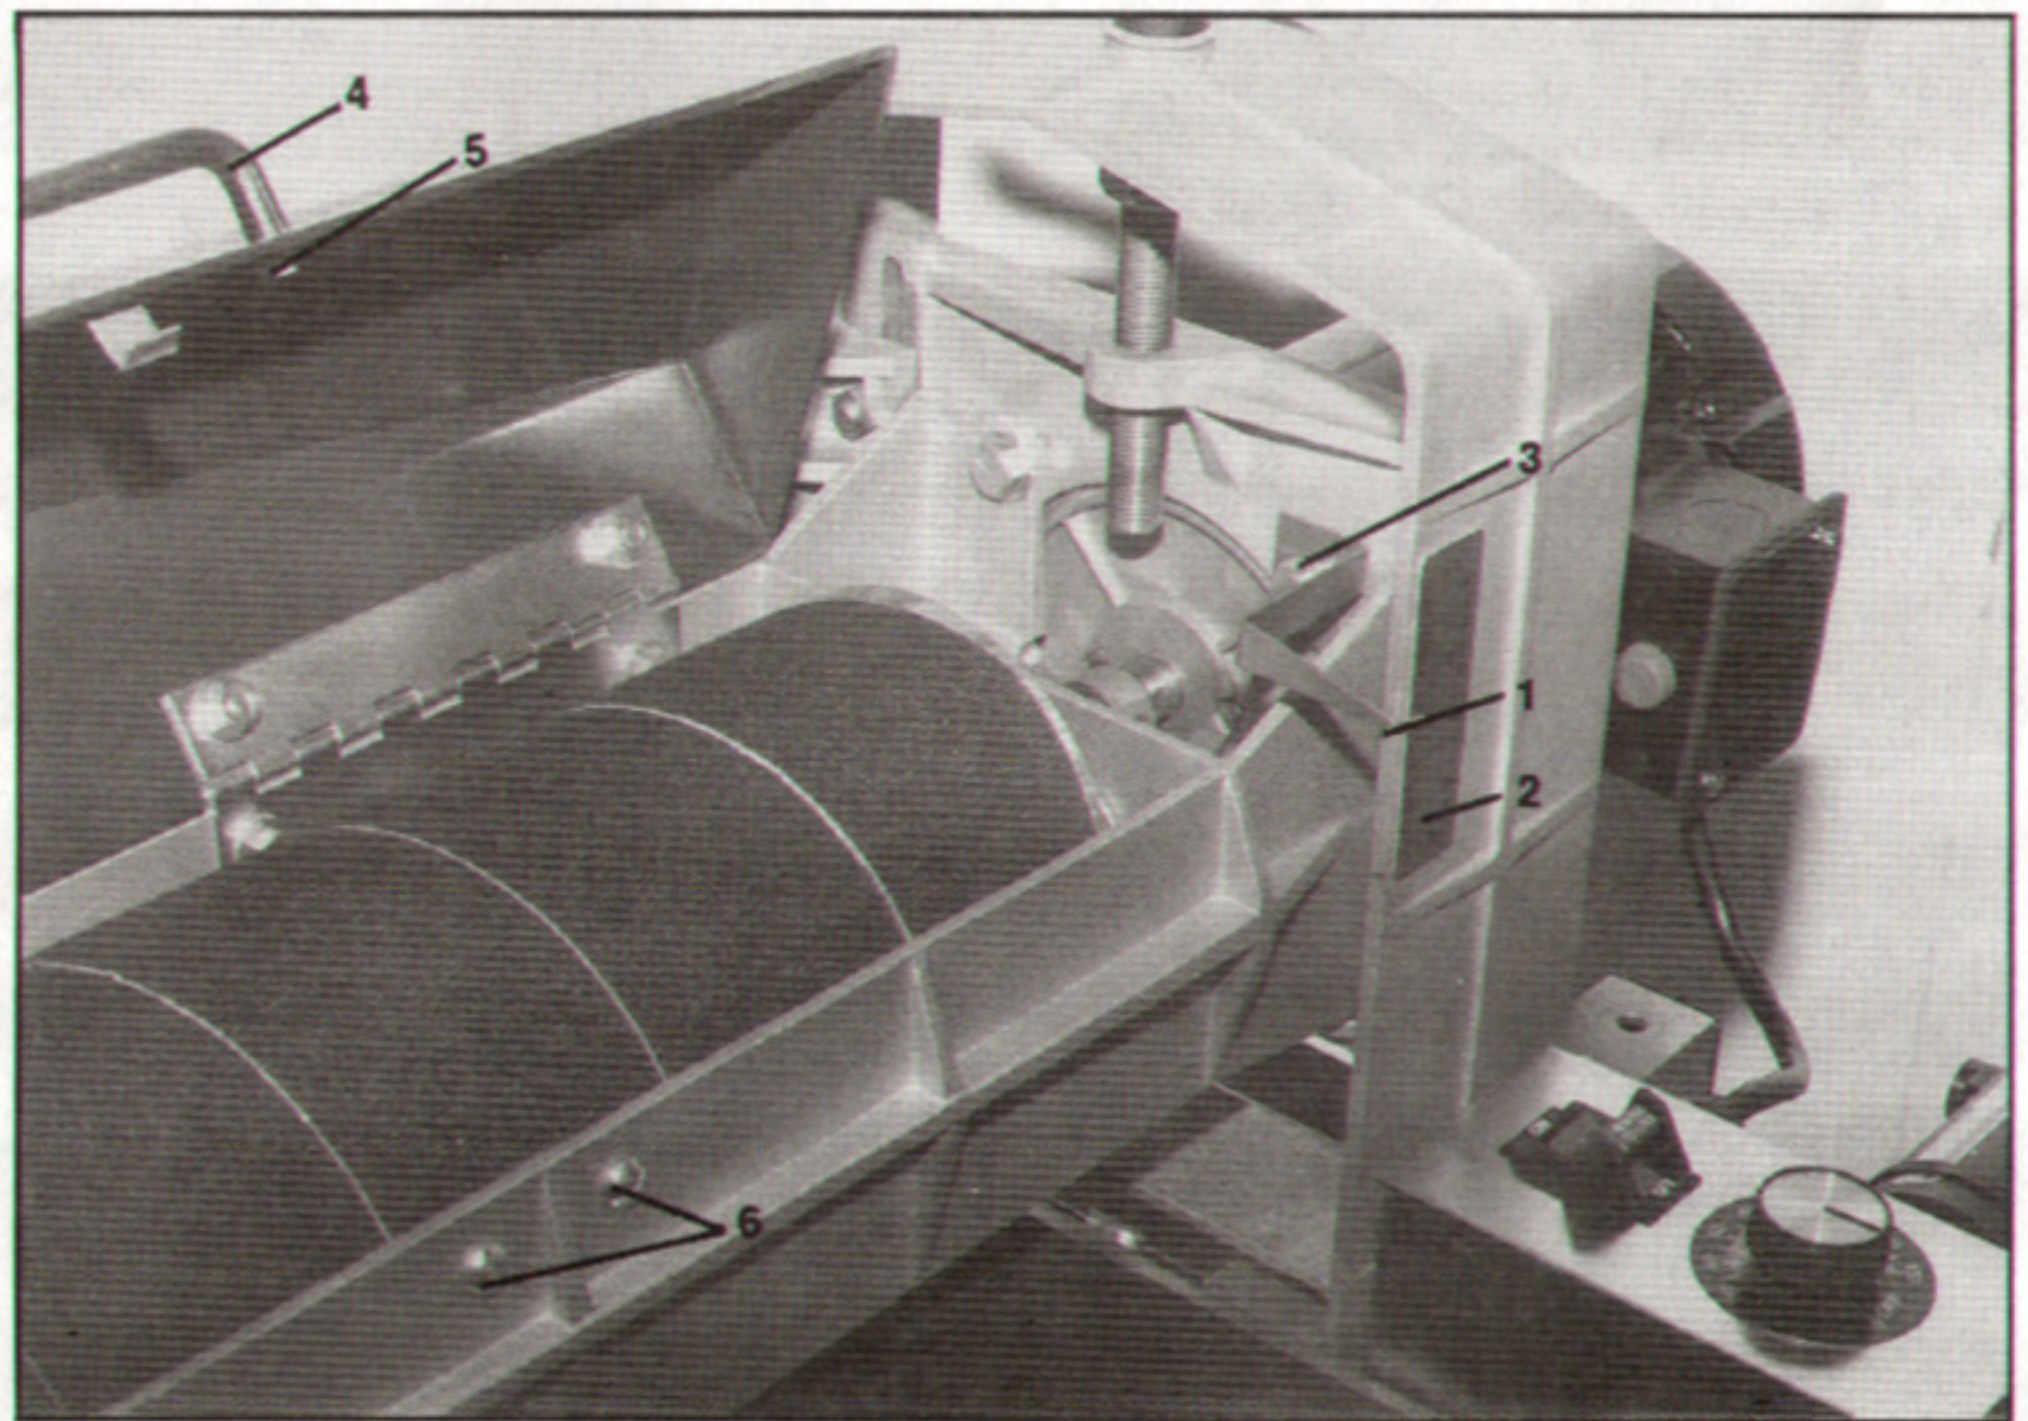

Figure 5
The depth gauge provides the distance between the bottom of the sanding drum and the top of the conveyor bed. Adjustment is performed by "zeroing" the gauge. With an abrasive strip on the drum, lower sanding drum to where it touches top of conveyor bed. At this drum position, the depth gauge indicator needle (1) (Fig. 5) should point at the zero mark of scale (2) (Fig. 5). If it does not, loosen bolt (3) (Fig. 5) and raise or lower indicator needle to point to zero on the scale. Re-tighten bolt (3) (Fig. 5).
The dust cover latch is provided to prevent the dust cover from accidentally opening. To release latch, press inward on the dust cover handle (4) (Fig. 5). This will cause the dust cover center to flex and release latch. To adjust latch operation, note that the dust cover latch can be adjusted in or out by loosening handle attaching screws (5) (Fig. 5). Opposing catch bracket on front of drum carriage can be adjusted up or down by loosening screws (6) (Fig. 5).